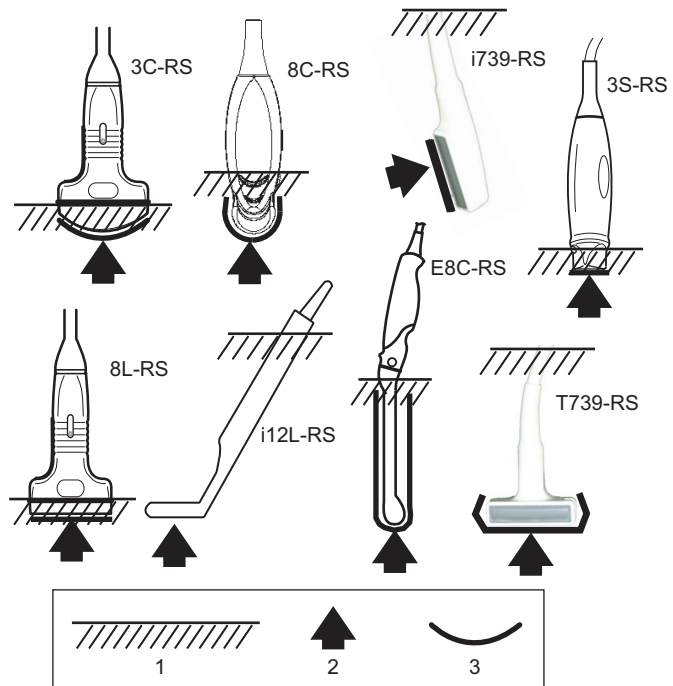

Figure 17-5. Probe Immersion Levels
- **DO NOT** immerse the probe into any liquid beyond the level indicated by the immersion level diagram. Refer to Figure 17-5. Never immerse the probe connector or probe adaptors into any liquid.